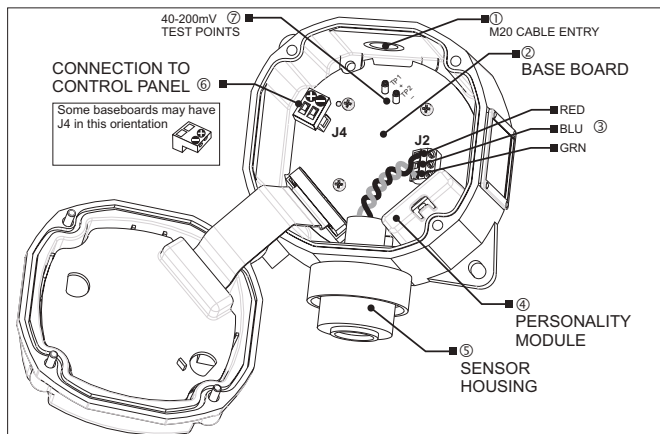

Figure 1: TXgard-IS+ fitted with toxic sensor
TXgard-IS+ comprises of two main parts. The junction box contains the circuitry, including the PCBs, an operator display panel and keypad. The sensor is contained in the sensor housing. Figure 1 on page 2.
All electrical connections to the detector are made through the terminal blocks on the baseboard J2 and J4 (see ③ and ⑥ in Figure 1). The junction box of TXgard-IS+ has one top-entry M20 cable entry for customer use as standard. Side entry versions and gland adapters are available (contact Crowcon for details).
All connections to the 4-20 mA loop, and sensor, are made via the screw terminal connectors mounted on the baseboard in the junction box. Figure 1 on page 2. For further information on how 4-20 mA current loops work, see Appendix E. For a worked example of how to calculate if the cable is suitable, please see Appendix F.